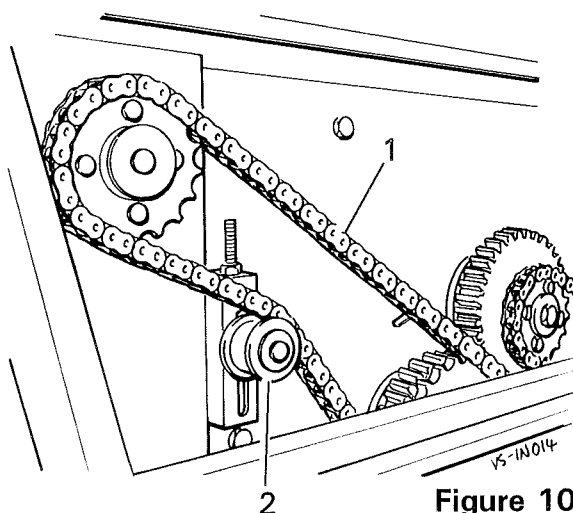

Figure 10
The digger web drive chain (item 1, figure 10) is fitted with an adjustable tension roller (item 2, figure 10) which should be checked regularly and adjusted as required.